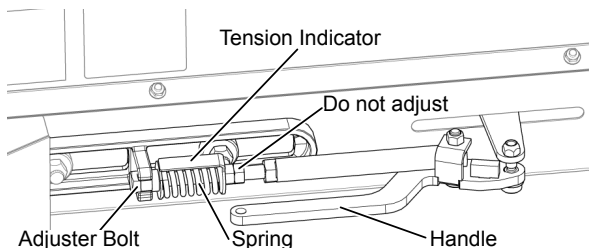

Fig. 175 - Draper Tension Adjustment
3. If adjustment is required, first release the draper belt tension handle shown in Fig. 175.